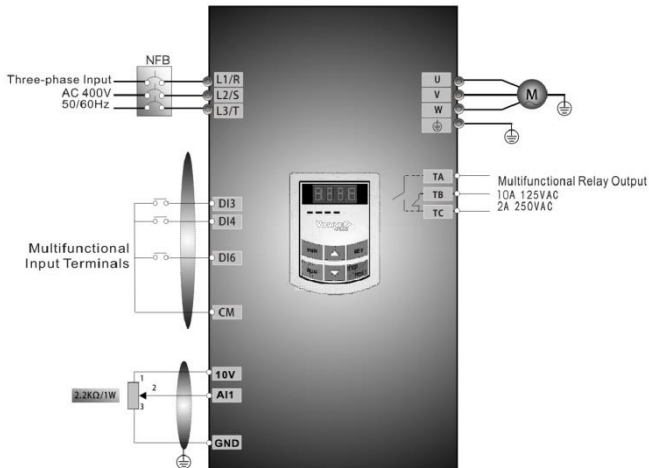

Figure 5-9 Wiring Diagram 3
- (1) Connect the wires in accordance with Figure 5-9. After having checked the wiring successfully, switch on the circuit breaker, and power on the inverter. Note: 2K~5K potentiometer may be adopted for setting external analog signals. For the cases with higher requirements for precision, please adopt precise multi-turn potentiometer, and adopt shielded wire for the wire connection, with near end of the shielding layer grounded reliably.